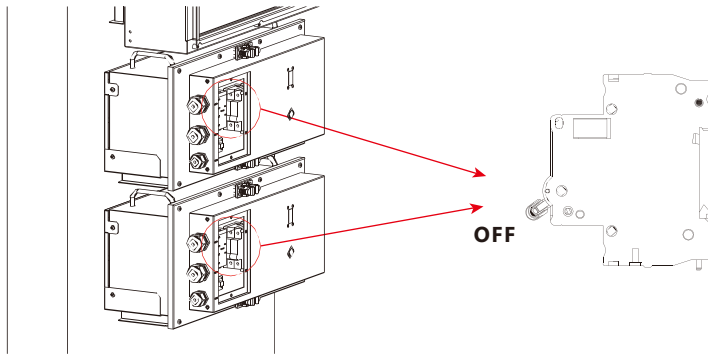

Figure 2.34 Confirm Circuit Breaker Status
**Step 17** Confirm that the status of circuit breaker is OFF. Please turn it off if it is ON. The status of the Figure 2.34 above is turned off viewed from the front.